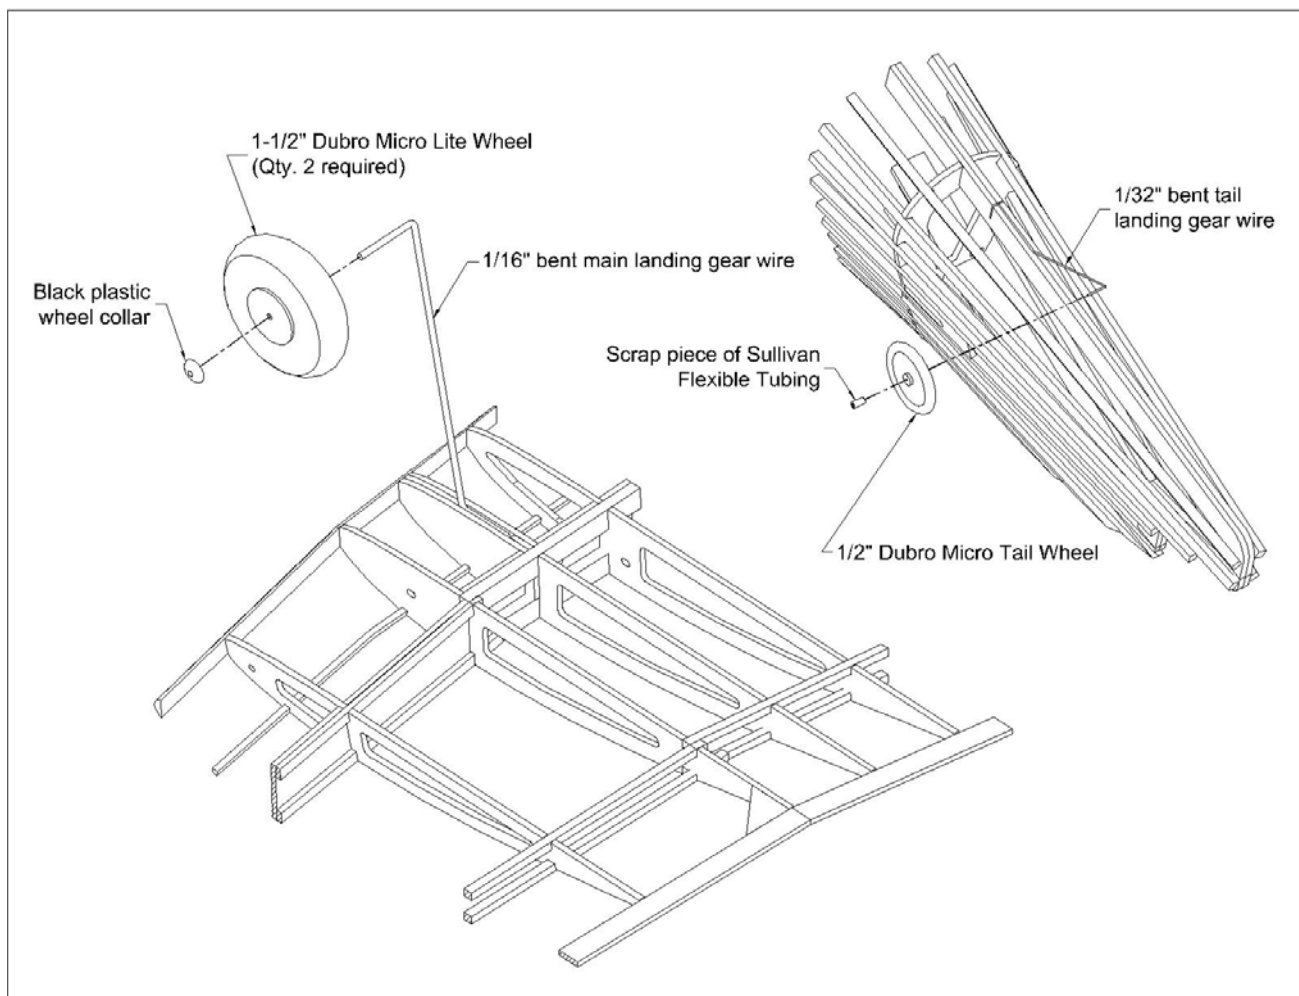

Figure 14
- ❑ If applicable, bend the landing and tail landing gear to the required shape by using the supplied landing gear wire bending templates as shown on the plan sheet. Install the main landing gear into the receiving portion of the **R4/R4a/R4b** subassembly with the wire oriented so the wheels are facing the wing tips. Install the bent tail landing gear into the receiving portion of the two-**fs3** formers that are on the bottom rear of the fuselage. Install the Dubro main wheels and tail wheel at this time. The main wheels are held on with the included hemispherical black plastic wheel collars. These collars are attached with thin CA glue to the main landing gear wire, be careful not to glue the wheel to the landing gear wire. The tail wheel is held on with a scrap piece of Sullivan Flexible Tubing (left over from aileron tubing). The scrap Sullivan Flexible Tubing is attached with thin CA glue to the tail gear wire, be careful not to glue the wheel to the landing gear wire. This is illustrated in Figure 14. (Note, the Dubro wheels may have to be drilled out to fit the landing gear wire)